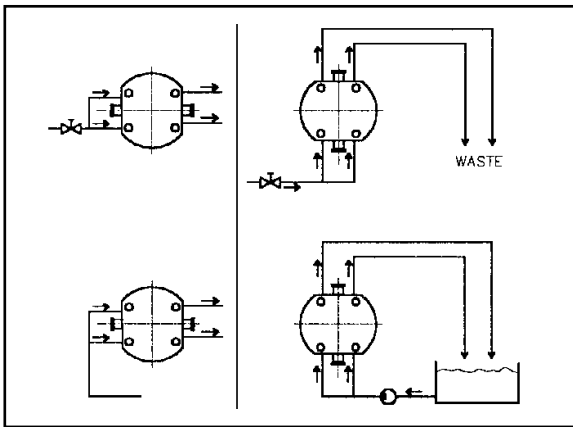

Figure 4a: Suggested Low Pressure Flushing System
- Pipework should be as shown in the diagram (see figure 4a).
- The system can be installed as in figure 4a but must be capable of withstanding the full pressure within the pumped fluid pipe system.